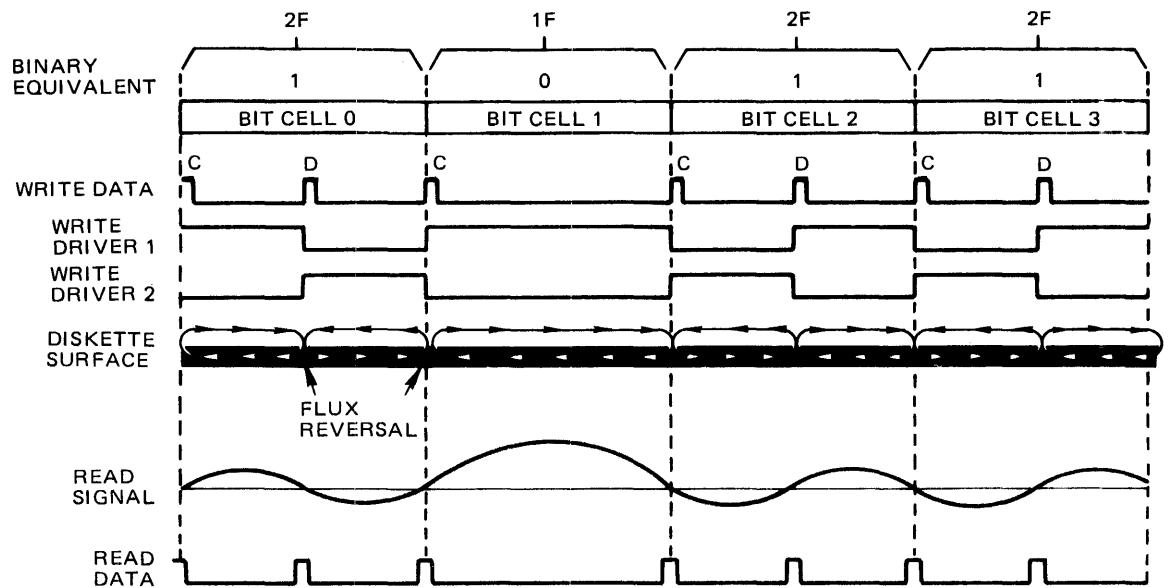

Figure 27 1F and 2F Recording Flux and Pulse Relationship
4.5 Figure 27 shows the 1F and 2F recording flux transitions with pulse relationship.